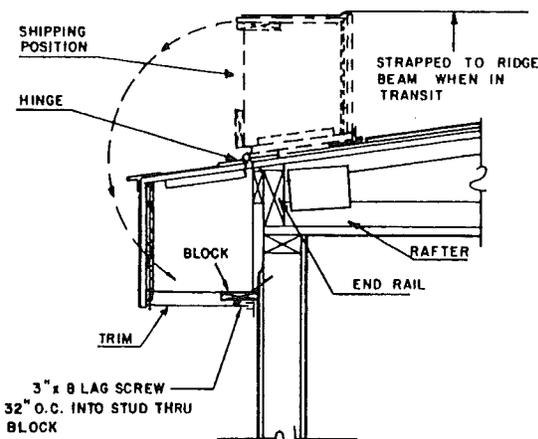

FIG. 17
3. Units manufactured with hinged eaves will be delivered with the eaves in a shipping position. To lower, remove all plastic wrapping and galvanized straps and swing them down into position as shown in fig. 17. Secure with lag screws as indicated.